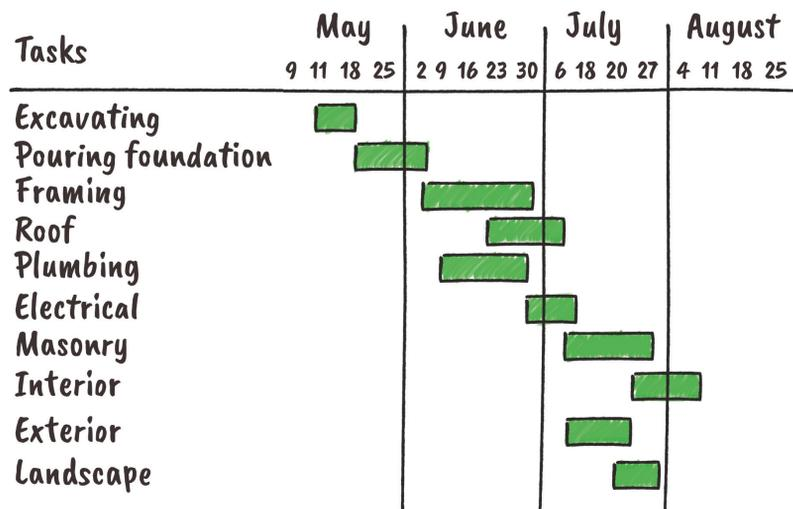

Figure 1.7: A Gantt chart drawn by hand
- The finish date of the project (see Figure 1.7).